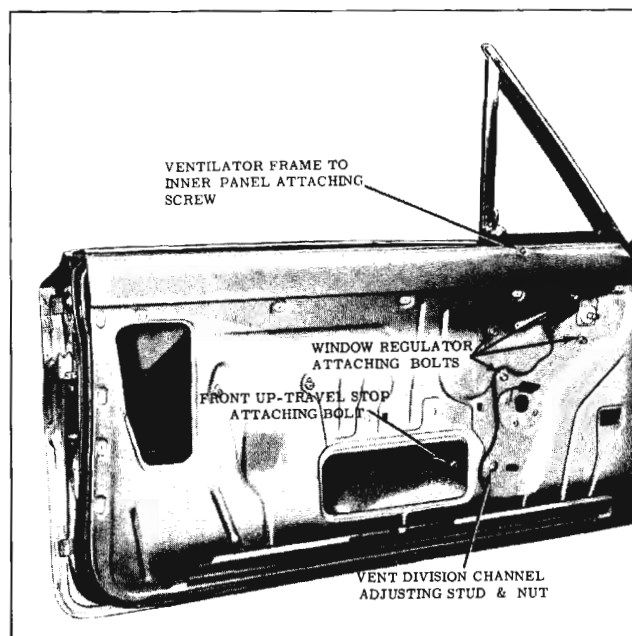

Fig. 16-247 Ventilator Attachment
The front door ventilator assembly is a manually operated friction type unit. (Fig. 16-247)
2. Lower door window and remove front up-travel stop. (Fig. 16-247)